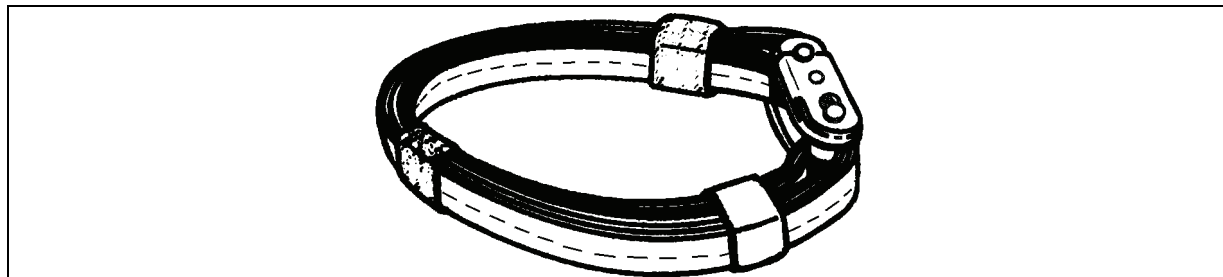
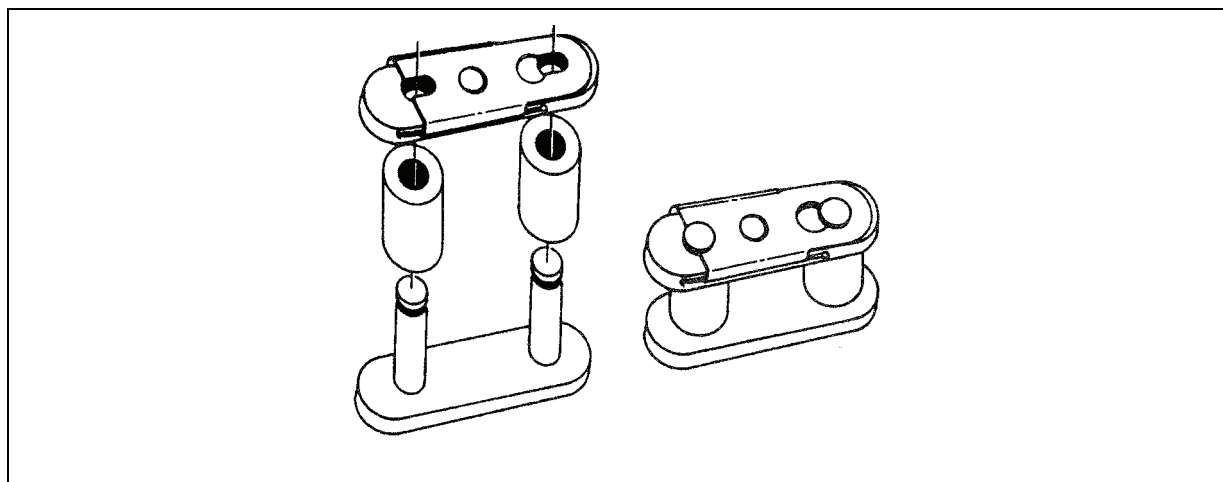
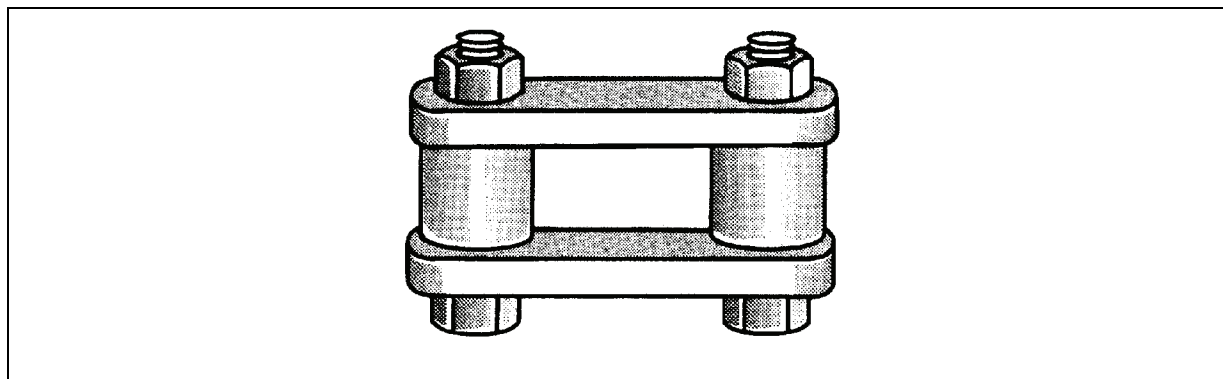

Figure 6-39. Three-Foot Apex Ring
Figure 6-40. Type IV Connector Link
Figure 6-41. Two Point Link
- The apex ring (Figure 6-39) may be used to connect the apex fitting of a sling set to the cargo hook of a UH-1H helicopter. The apex ring is made by joining the two ends of a 3-foot sling with either a Type IV connector link (Figure 6-40) or a two-point link assembly (Figure 6-41). An apex ring made from a two-loop Type XXVI nylon sling has a maximum capacity of 10,000 pounds.